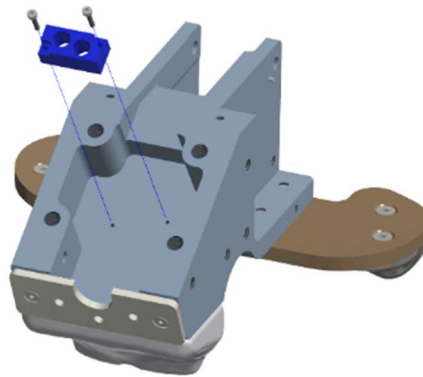

Figure 8-32. Attach the Pelvis Tilt Sensor to the Center Pelvic Bone (474-4541)
- 8.3.5 Attach the Pelvis Tilt Sensor from the Center Pelvic Bone (474-4541) using two M2 X 0.4 X 10 LG. SHCS (Figure 8-32).